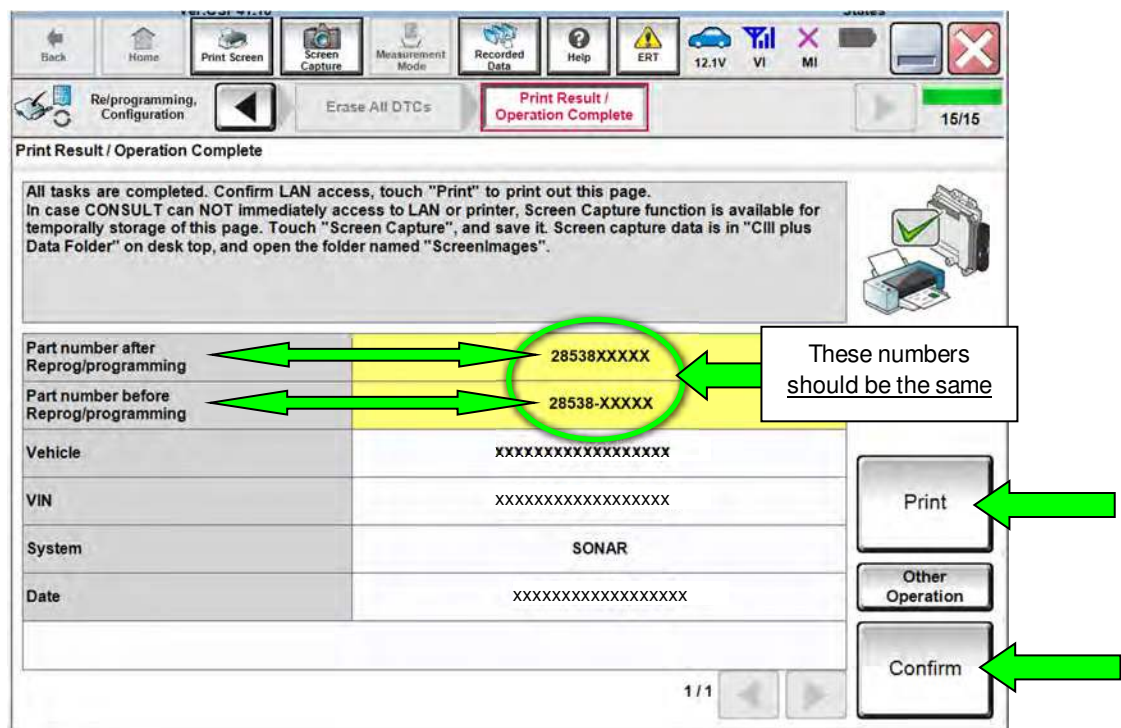

Figure 25
HINT: When the entire reprogramming process is complete, the screen in Figure 25 will display.
41. Print a copy of the screen below (Figure 25) and attach it to the repair order for warranty documentation.